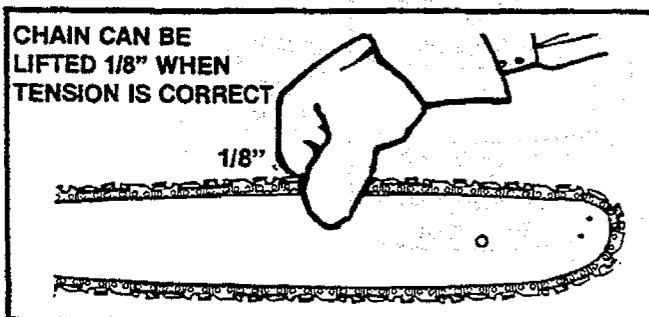

Figure 7
- Check the tension by lifting the chain from the Guide Bar at the center of the bar. Figure 7.